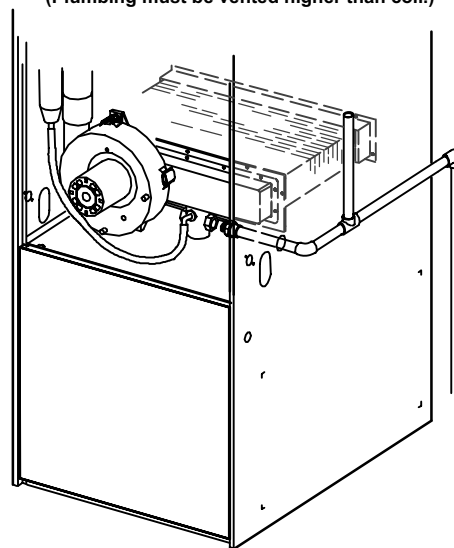

FIGURE 21
- 5 - Connect field-supplied plumbing to nipple and route to open drain. Plumbing should be vented to a point higher than the condensing coil. See figure 21.